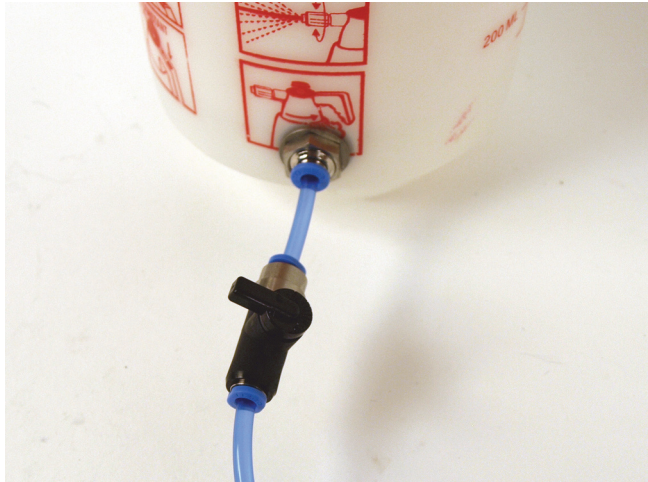

Figure 1-6 The feeding tube valve in the closed position
1. Make sure that the feeding tube’s valve is closed (Figure 1-6 on page 31).